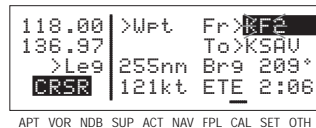

Figure 3-38
5. Rotate the right inner knob to select the second character (figure 3-38).